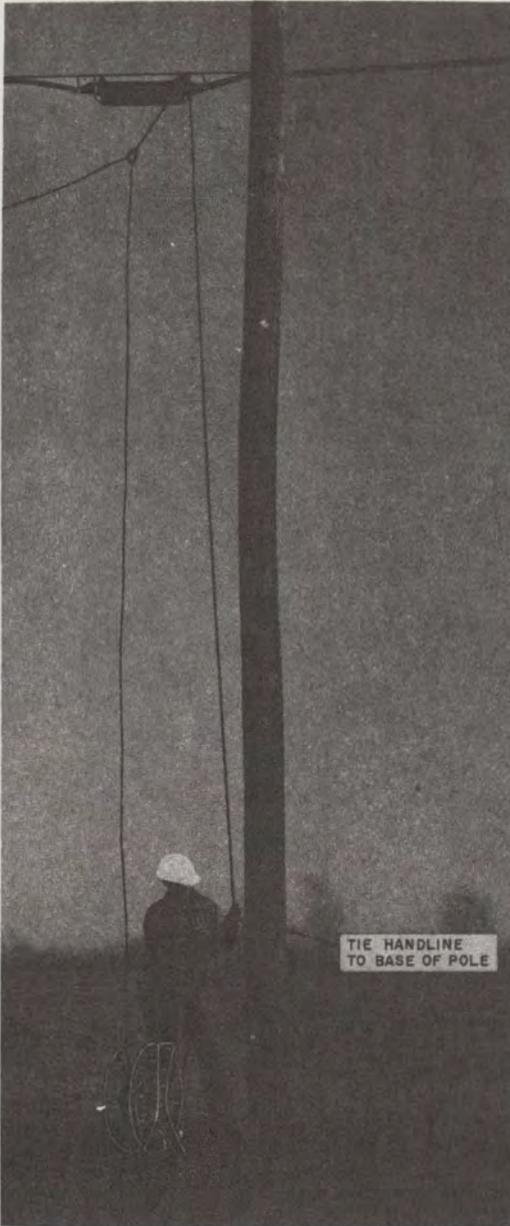

Fig. 6—Drop Wire Raised to Approximate Height
- (h) After the drop wire has been raised to the approximate required height, secure the handline to the base of the pole (Fig. 6) or to the lower rungs of the ladder.